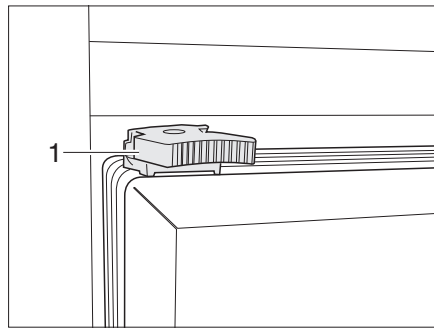

Fig. 93 Refrigerator door locking mechanism
- Turn the locking mechanism (Fig. 93,1) anticlockwise.
- Turn the locking mechanism (Fig. 93,1) clockwise.
- Turn the locking mechanism (Fig. 93,1) clockwise so that the lock latches.